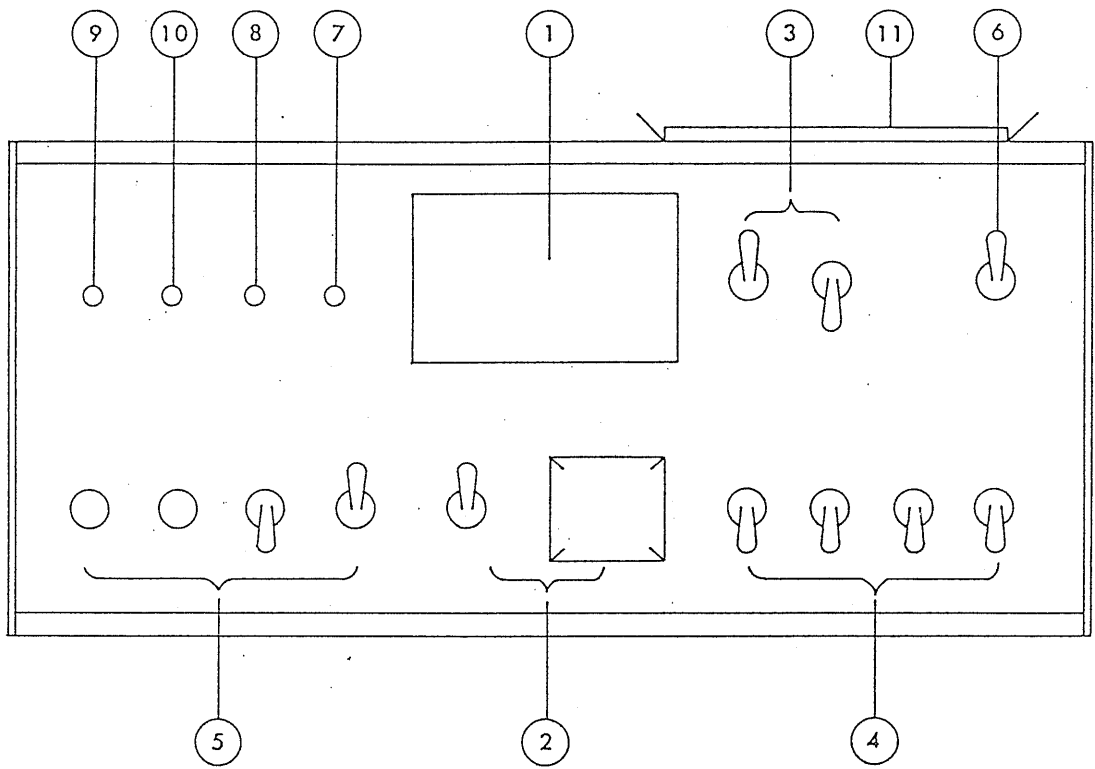

Figure 3-1
3.1 Description of Panel Items (See Figure 3-1.)
- ① DATA: Digital switches for data setting. Data for 0 - 9999 and polarity for "+" or "-" can be set. No decimal point is displayed. Note the DPS range and columns for the decimal point.
- ② STROBE: To store in DPS the data set with the DATA switches of ① above, press the STROBE key. A/B are for output terminal selection. Use A for DPS-V and DPS-C Series.
- ③ RANGE: Range selection is done with 2 bits.